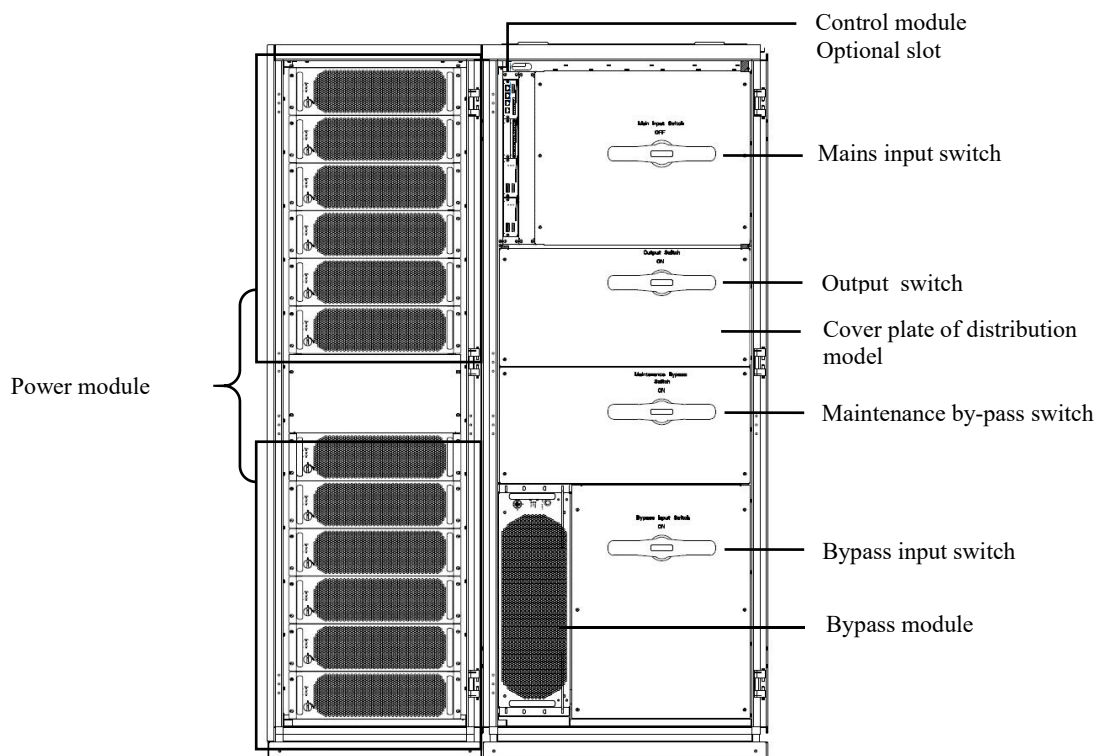

Fig. 1-11 Structure of 600kVA UPS (full-load)
7) The full-load structure of 600kVA UPS is shown in Fig. 1-11 in which the front door of the UPS is opened.